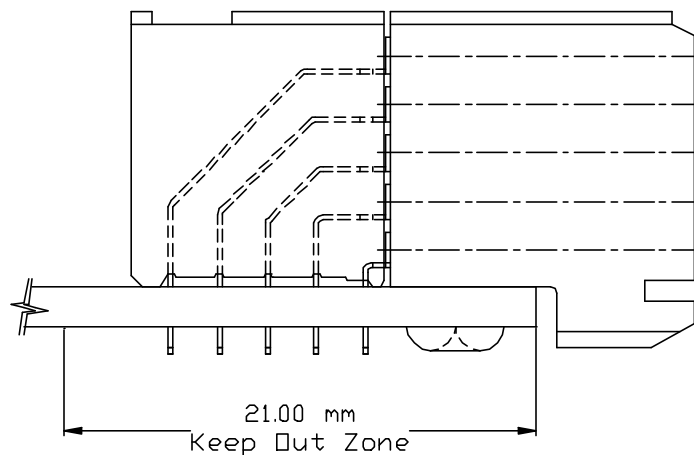

Figure 9 - Keep out zone for components around receptacles.
- To enable the application of receptacles, there is a recommended keep out zone for components. Refer to Figure 9 for the recommended keep out zone.